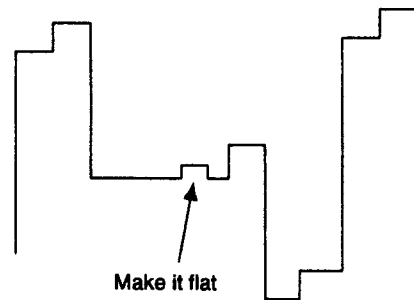

Fig. 5-17
5. Adjust **PHASE NTSC 358 NOR** so that the burst section of the output waveform will be straight. (Fig.5-17)
2. Make adjustment in the same way as 10-1. shown above by means of **PHASE NTSC 443 ACC OFF**. (Fig.5-17)